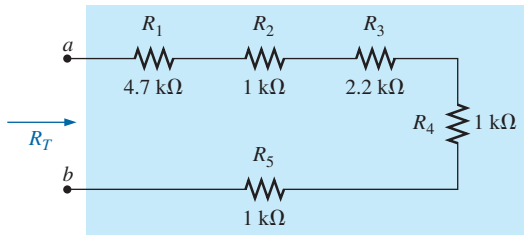

FIG. 5.9
Series circuit of Fig. 5.9 redrawn to permit the use of Eq. (5.2):  $R_T = NR$ .
**EXAMPLE 5.3** Determine the total resistance for the series resistors (standard values) in Fig. 5.9.